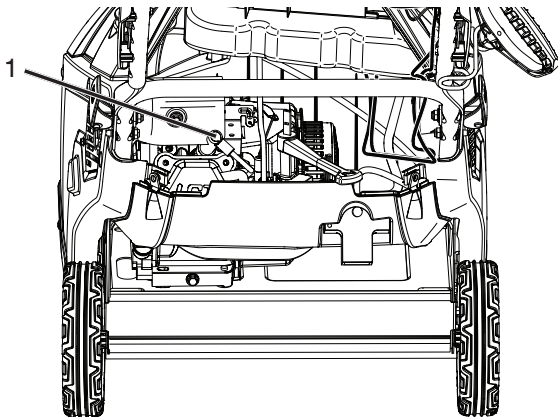

Figure 29
15. Disconnect the spark plug wire from the spark plug (Figure 29).
20. Connect the spark plug wire to the spark plug (Figure 29).